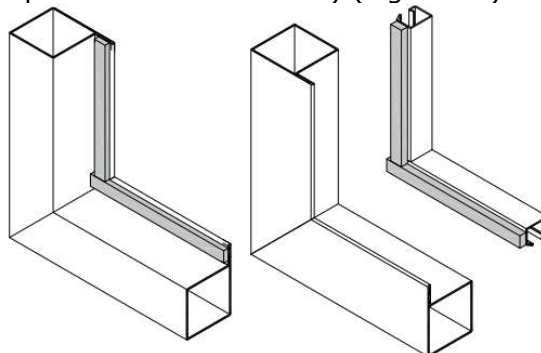

Figure 10 Square shaped seal installation
- 4.1. Glue the outer seal onto the frame (if the seals have different thicknesses, then the thinner one must be placed on to the frame) (Figure 10).
- 4.2. Glue the gaskets so that the edge of the gasket remains approximately 5 mm below the edge of the profile (Figure 10).